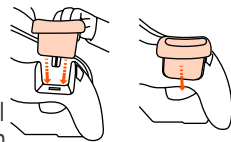

Fig. 47c
- Align cup holders and press into place. Pull up on cup holders to ensure the cup holders is secured (Fig. 47c).